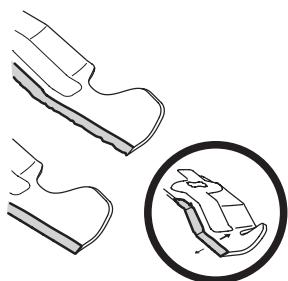

Figure 28
- To properly sharpen the cutting blade, remove equal amounts of metal from both ends of the blade along the cutting edges, parallel to the trailing edge, at a 25° to 30° angle. Always grind each cutting blade edge equally to maintain proper blade balance. See Figure 28.